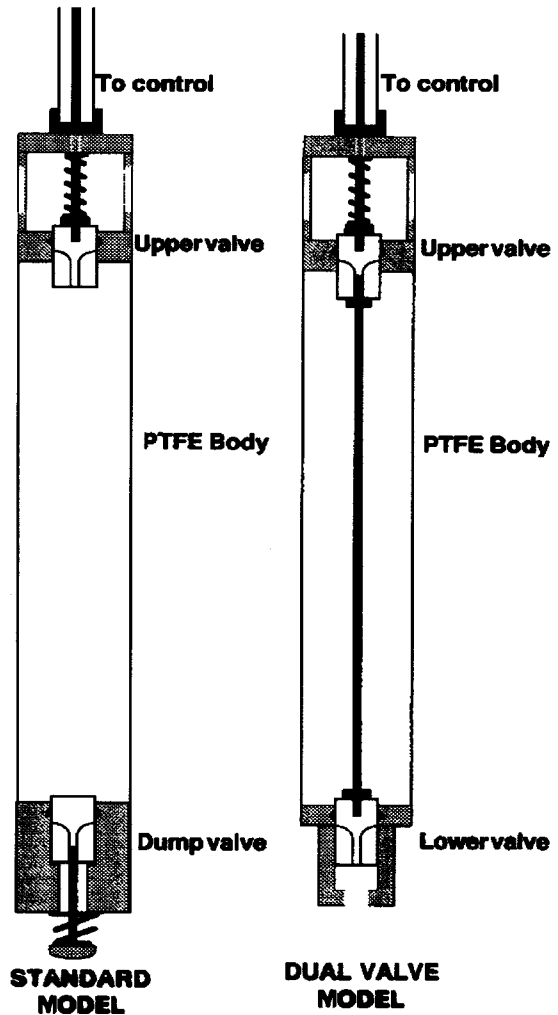

FIG. 7 Discrete Level Sampler
valve(s) on each end of the sample collection chamber (see Fig. 7). It is constructed of PTFE and stainless steel and is designed to be reusable. The Discrete Level sampler is assembled with either (1) a rigid control tube and rod or (2) a flexible tube and inner cable attached to the upper end of the sampler. The proximal ends of the controls are provided with a handle and inner rod or cable actuator.